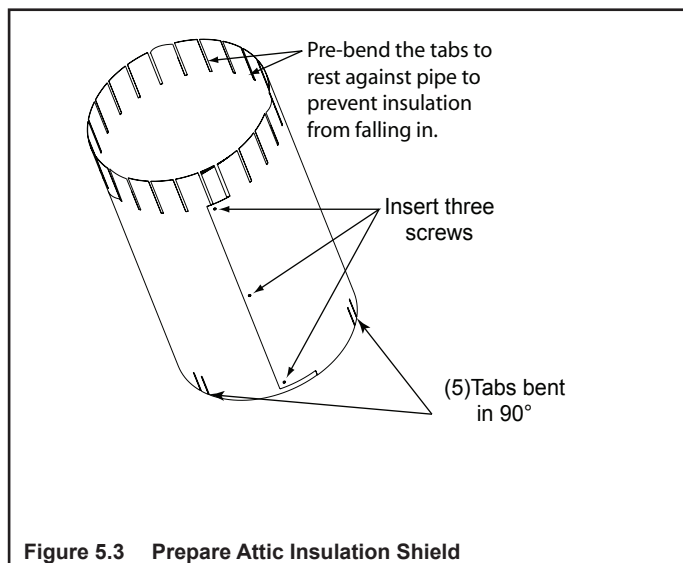

Figure 5.3 Prepare Attic Insulation Shield
- Refer to Figures 5.3, 5.4, and 5.5.